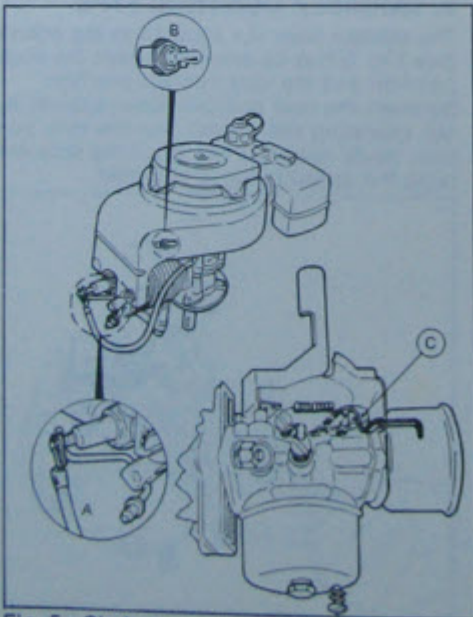

Fig. 5 Choke and stop controls
The governor fitted to Flymo engines is similar to that described in (A) Fig. 5.